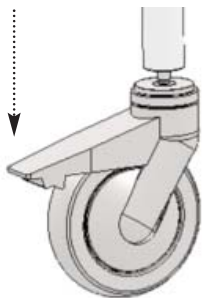

Figure 22
**B Caster Wheels:** Before transferring into and out of the chair, both the two front caster wheels and the two rear wheels must be securely planted onto the floor and switched to the locked position. Failure to do so could cause the chair to become unstable (Refer to Figures 22 & 23).